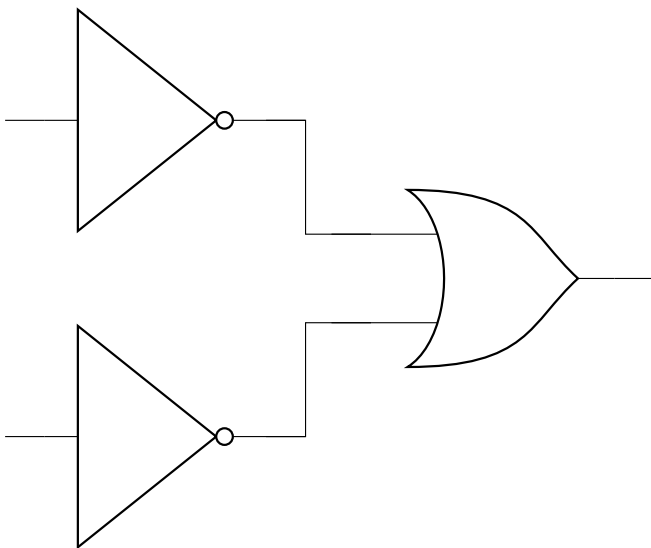

Fig. 3.20: combination circuit
37. The following combination of logic gates in Fig. 3.20 represent the operation (GATE PH 2021)